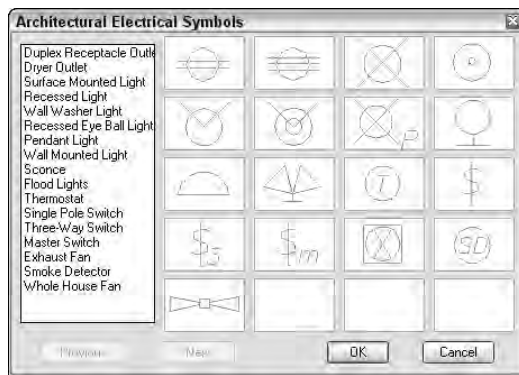

Figure 33-14: The AB4 menu's Image Tile section creates the Architectural Electrical Symbols dialog box.
8. Click the **AB4** menu. It now has a new item, **Architectural Elect Symbols**. Choose this item. The **Architectural Electrical Symbols** dialog box opens, created by the **Image Tile** section, as shown in Figure 33-14.